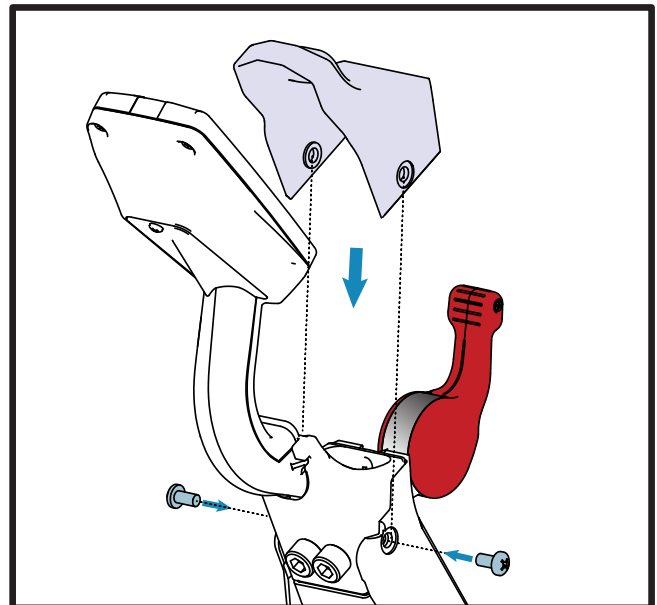

Figure 14. Align the Guard Cover Over the Mounting Holes
2. Slide on the guard cover over the sweat guard and snap it in place, refer to Figure 14.